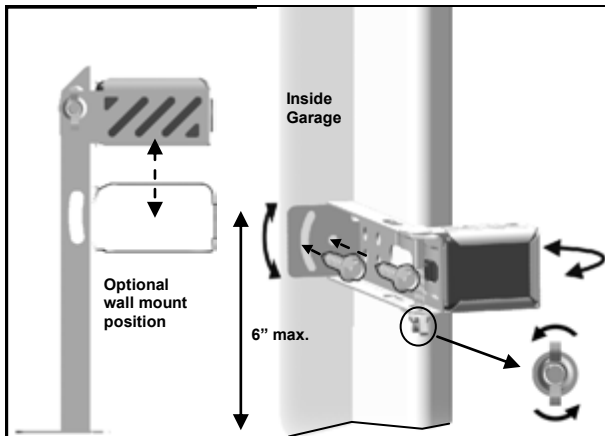

Fig. 1 (Wall-Mount)
1. Place the Photo Eyes facing each other on each side of the garage door. Position the sensors so they are no higher than 6" (15cm) above the floor, as shown in Fig.1.
4. If necessary use the Optional Wall-mount Position (Fig.1) to better fit your door-track and improve obstacle avoidance. To adjust the position, loosen the wing nut, disassemble the Bracket and move the Photo Eye to the lower position on the holder.